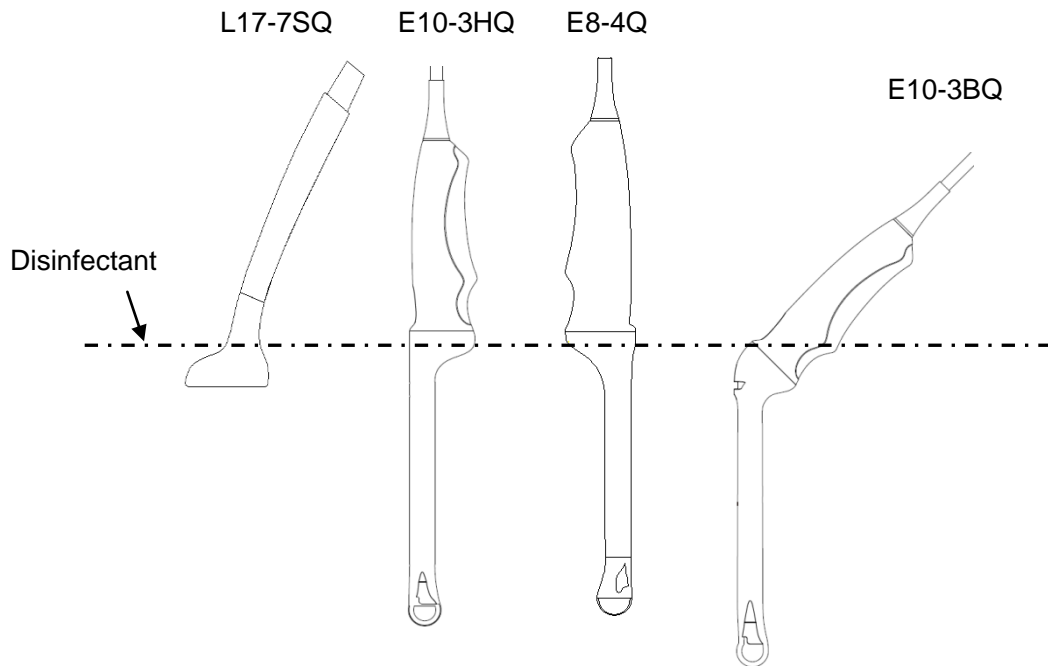

Figure 6-3 Depth of the Transducer Immersed into Disinfectant
5. Place the cleaned and dried transducer in contact with the disinfectant (refers to figure 6-3 for the contacting area) for the time specified by the disinfectant manufacturer. For example, the contact time recommended by the manufacturer for soaking in Cidex Glutaraldehyde(2.4%) is at least 45 min.
7. Patient contact area should be immersed into the solution while using the immersion method, but should not exceed the depth shown in figure 6-3.
5. Place the cleaned and dried transducer in contact with the disinfectant (refers to figure 6-3 for the contacting area) for 10 hours. Or, follow the time specified by the disinfectant manufacturer to soak the transducer.